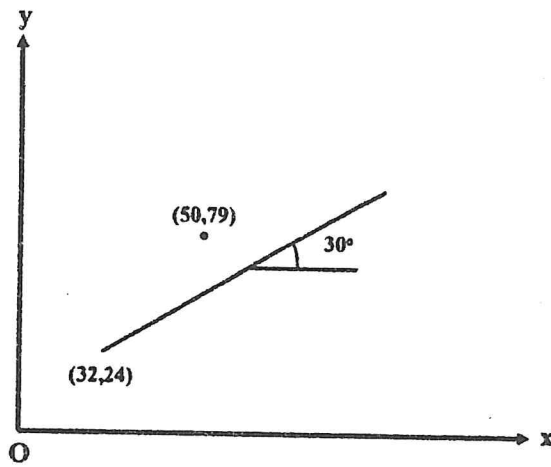

Fig 7(a)
- 6. (a) Discuss the structure and functionality of A Simple Data Structure that supports geometric entities. How does this structure facilitate entity addition, deletion, and modification? (15)
- (b) Explain the primary sections of an IGES file. How do they contribute to the structured transfer of data within the IGES format? (10)
- (c) Define a point and a circle to model geometric entities using EXPRESS language. (10)
- 7. (a) Consider the mirroring of points through a line at an angle of 30° to the x-axis with its origin at $x = 32, y = 24$. The points are located as shown in Fig. 7(a). Conduct object transformation for the point $x = 50, y = 79$. (15)